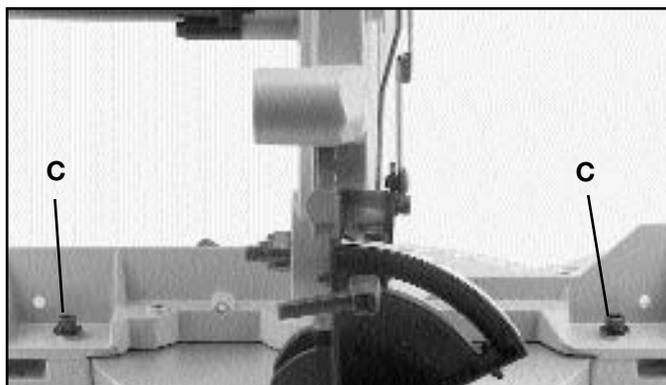

Fig. 20
6. If an adjustment is necessary, loosen the two screws (C) Fig. 20, and adjust the fence until it is 90 degrees to the blade. Then tighten two screws (C).